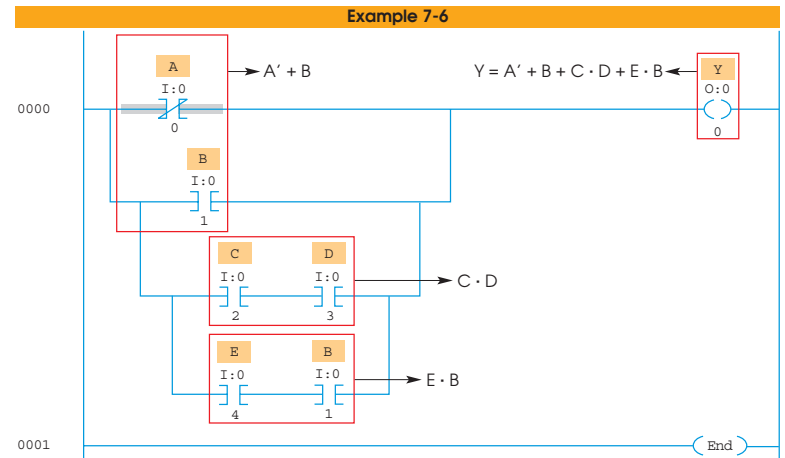

Figure 7-40. PLC ladder logic diagram for Example 7-6.
Figure 7-40 displays the PLC ladder logic diagram. Notice that inverted A, B, CD, and EB inputs are in parallel (OR). Inputs C and D are in series (AND). Inputs E and B are also in series (AND).